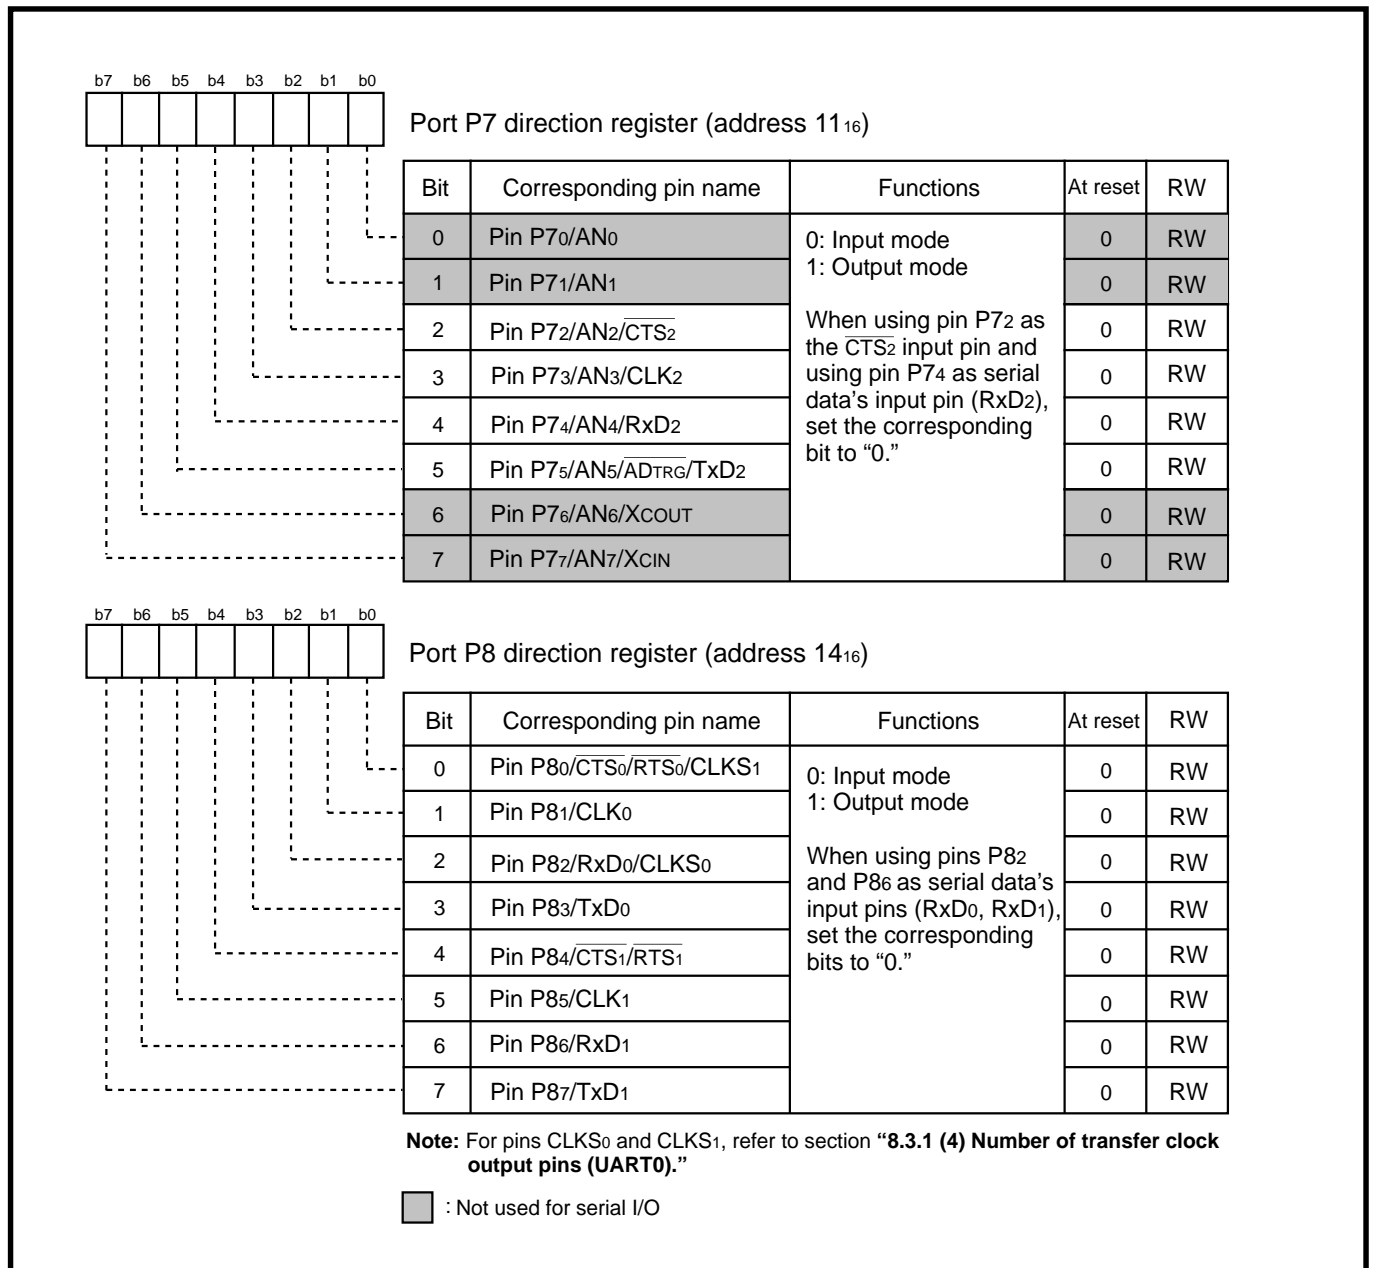

Fig. 8.2.16 Relationship between ports P7, P8 direction register and UARTi’s I/O pins
I/O pins of UARTi are multiplexed with ports P7 and P8. When using the P74, P82 and P86 pins as serial data input pins (RxDi), set the corresponding bits of the ports P7 and P8 direction registers to “0” to set these ports for the input mode. When using the P72 pin as the $\overline{\text{CTS}}_2$ input pin, set bit 2 of the port P7 direction register to “0” to set this port for the input mode. When using the P73, P75, P80, P81, P83–P85, and P87 pins as UARTi’s I/O pins ($\overline{\text{CTS}}_i/\overline{\text{RTS}}_i$, CLKi, TxDi), these pins are forcibly set as the UARTi’s I/O pins, regardless of the ports P7 and P8 direction register’s contents. Also, as for CLKS0 and CLKS1, refer to section “8.3.1 (4) Number of transfer clock output pins (UART0).” Figure 8.2.16 shows the relationship between the ports P7, P8 direction registers and UARTi’s I/O pins.